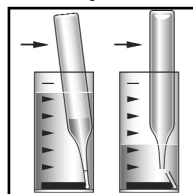

Figure 2
2. Place the Vacu-vial ampoule in the sample cup. Snap the tip by pressing the ampoule against the side of the cup. The ampoule will fill leaving a small bubble to facilitate mixing (fig 2).